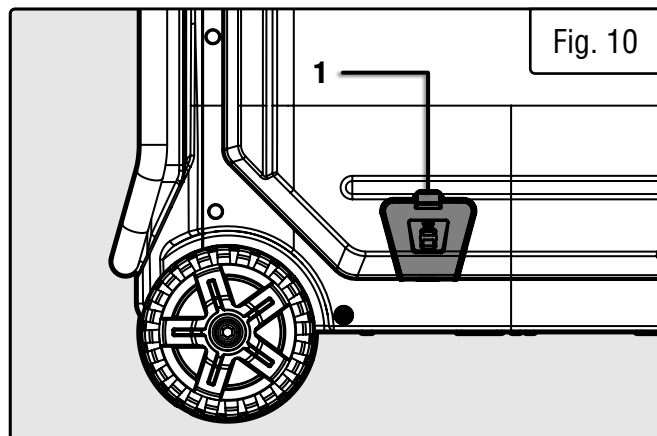

Fig. 10
2. Pull back the quick-connector collar on the NG hose. Push it fully over the to “LPG / NG inlet (Fig. 10 - 1), then release the collar. Lightly pull on the hose to ensure that it is securely attached to the generator.